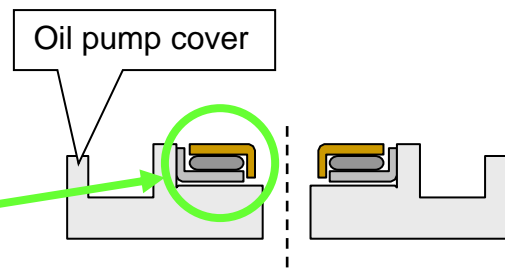

Figure 15L
- **Orientation IS critical.** See Figure 15L for thrust bearing cross section.